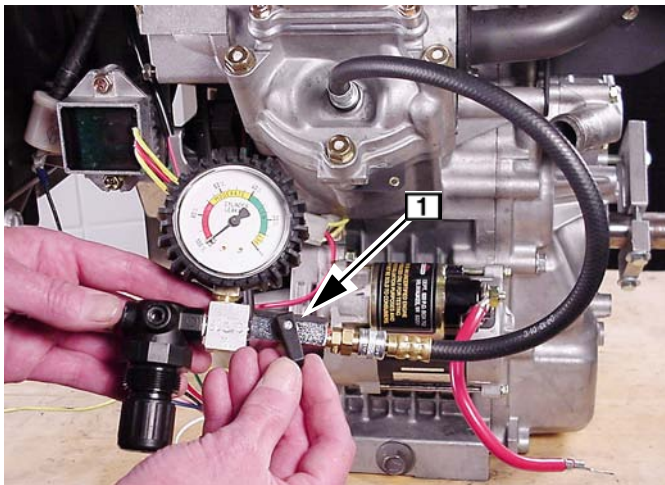

Fig. 24
8. Turn regulator adjustment knob clockwise until the tester’s needle is on the set point. Push knob in to lock. Slowly open air outlet valve and note position of needle on gauge, Fig. 24.